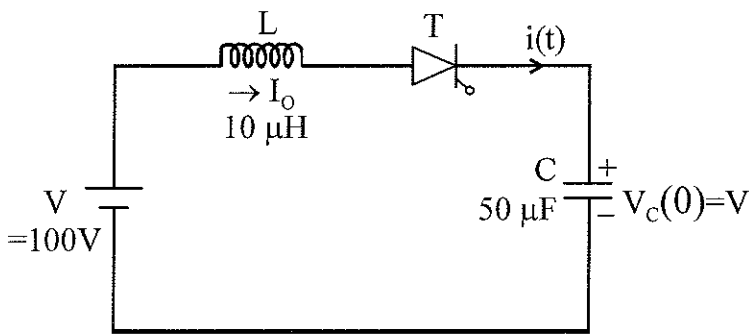

Figure 1.
1. Figure1 shows a self commutating circuit. The inductance carries an initial current of 200 A, and the initial voltage across the capacitor is V, the supply voltage. Determine the conduction time of the SCR and the capacitor voltage at turn off. 3